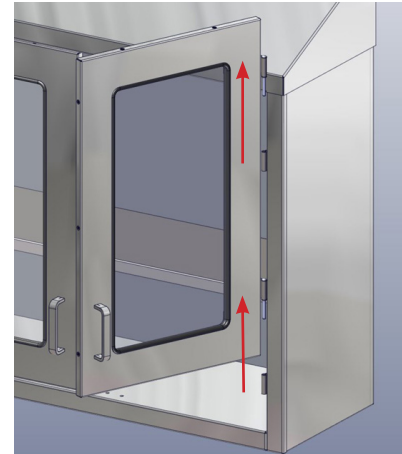

Fig. 4: Lift Door from Hinges
1. If the High Cabinet is equipped with doors, they may be removed for ease of installation. To remove the doors, open the doors fully and lift them off their hinges. The pin on the hinge of the door will slide out of the barrel of the hinge on the cabinet (Fig. 4).